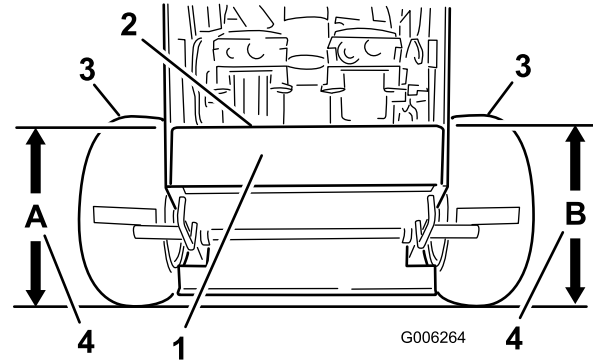

Figure 68
4. Measure engine-deck height at location **A** (Figure 68).
5. Measure engine-deck height at location **B** (Figure 68).